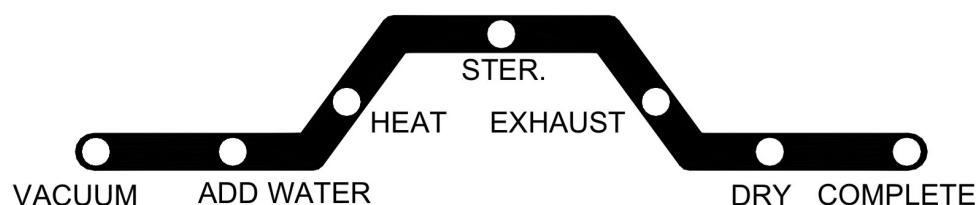

Figure 50
D. Press the START Button  and the sterilizer will automatically run through the selected program. The current progress of the sterilization cycle is indicated by the illuminated LED on the Process Status Indicator. (Figure 50)